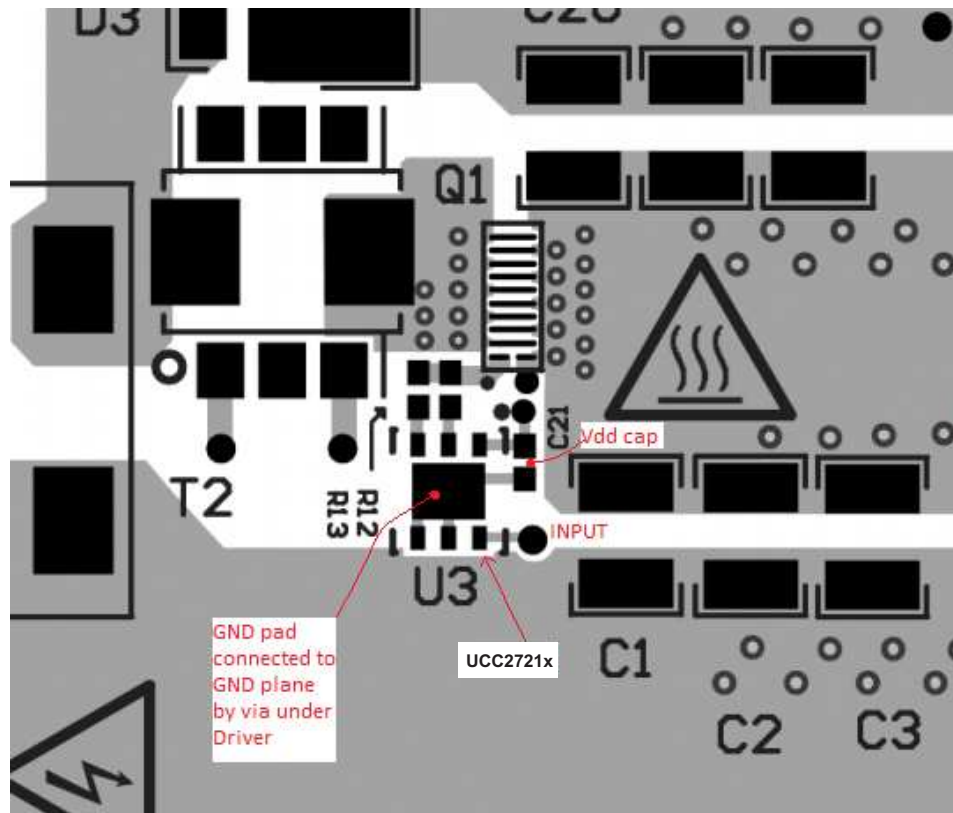

Figure 23. UCC27211A PCB Layout Example
- Locate the $V_{DD} - V_{SS}$ and $V_{HB} - V_{HS}$ (bootstrap) capacitors as close as possible to the device (see Figure 23).